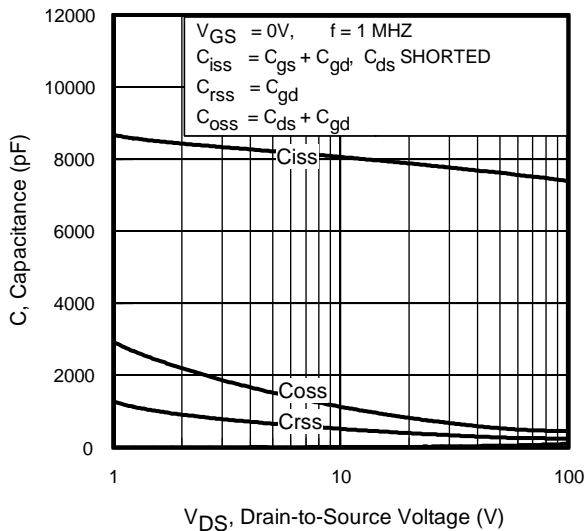

Fig 5. Typical Capacitance vs. Drain-to-Source Voltage
| C _{oss eff. (TR)} | Effective Output Capacitance (Time Related)⑥ | — | 720.1 | — | | V _{GS} = 0V, V _{DS} = 0V to 80V ⑧, See Fig. 5 |